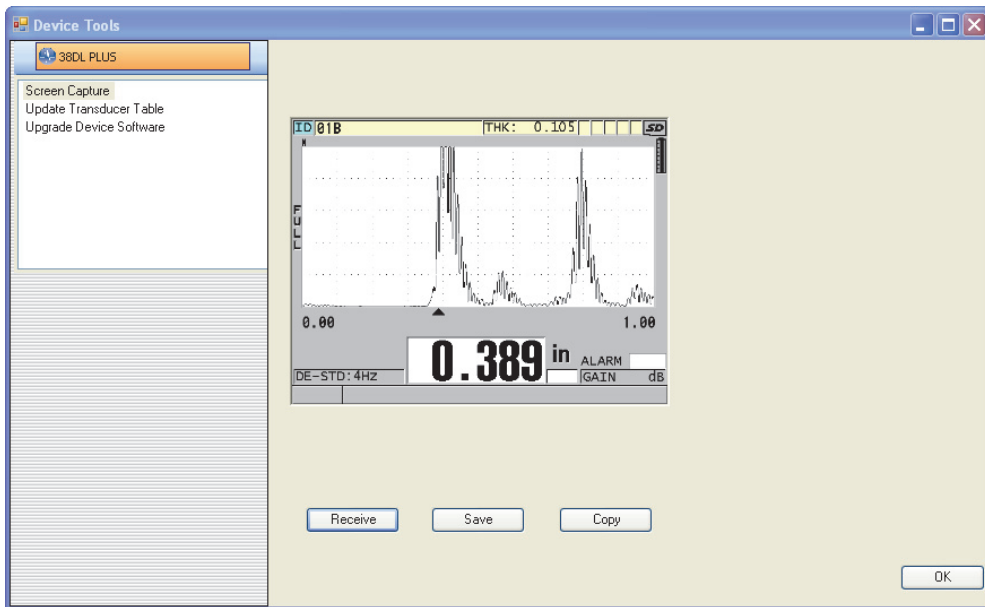

Figure 14-11 The Device Tools dialog box with a screen capture
- b) In the **Device Tools** dialog box (see Figure 14-11 on page 278), select **Screen Capture**, and then click **Receive**.